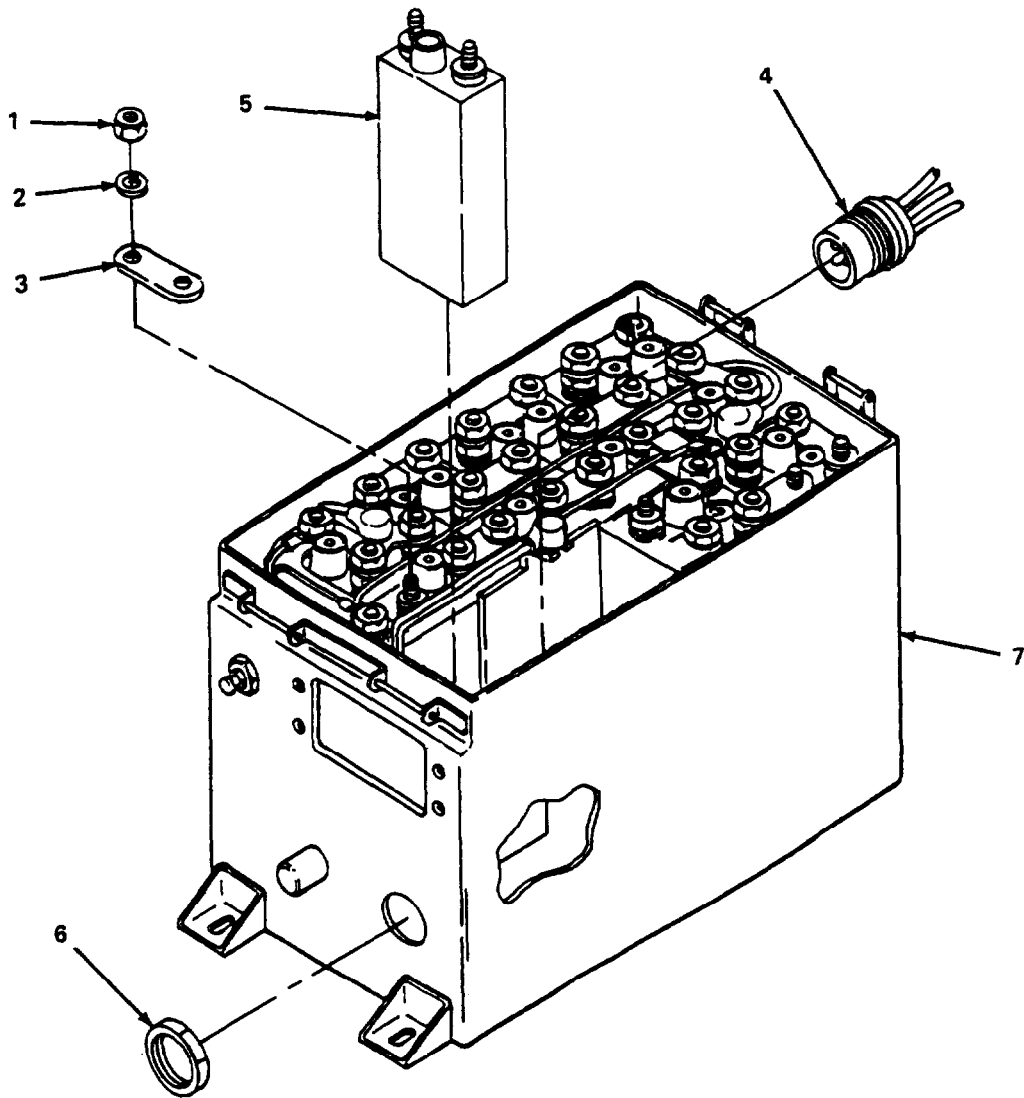

Figure 3-18. BB-558/A Wiring Harness Connector Replacement.
(2) Wiring Harness Connector Replacement (fig. 3-18).